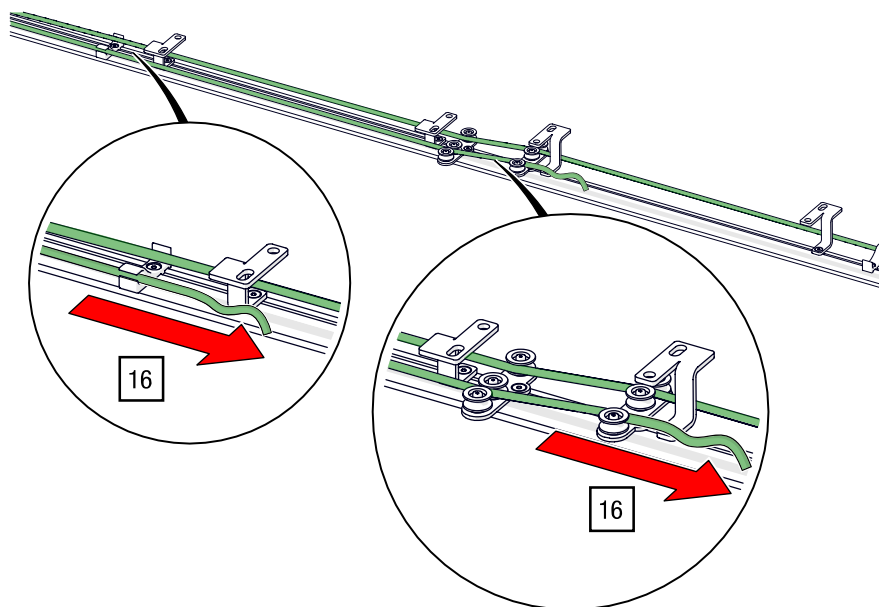

Fig. 80: Variant Ⓐ – Top cord operation – Returning the cord through track change
16. Guide the end of the cord through the straight guides and through the track change back to the side of the master runner to be clamped (following Fig. 80 shows variant for two-part curtain and single-track rail layout).